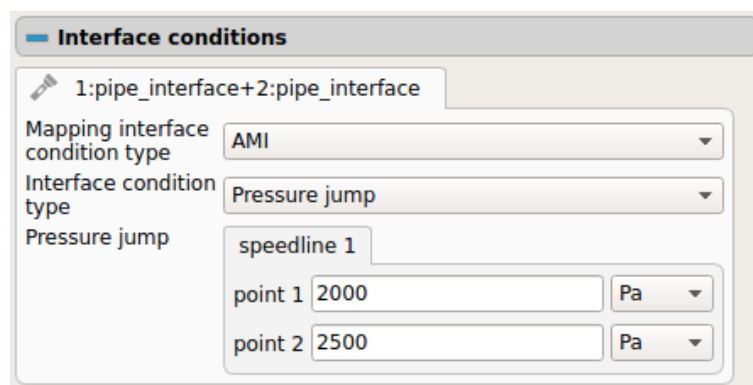

Figure 11.38: TCFD – Interface conditions - pressure jump.
- "Interface condition type" enables the additional condition, which affects the physical fields directly. Currently, there is only one type - **Pressure jump**, and is visible, only if the **Mapping interface condition type** is set to AMI. If chosen, the pressure of the fluid moving through the interface will rise by the desired value. The value may be set individually for each point and speedline with optional CSV files containing time-depended values (see Fig. 11.38). If the geometry is periodic, it is forbidden to add pressure jump condition, so if user do so, the **Check Setup** (4.1) will notify him/her to solve this discrepancy.